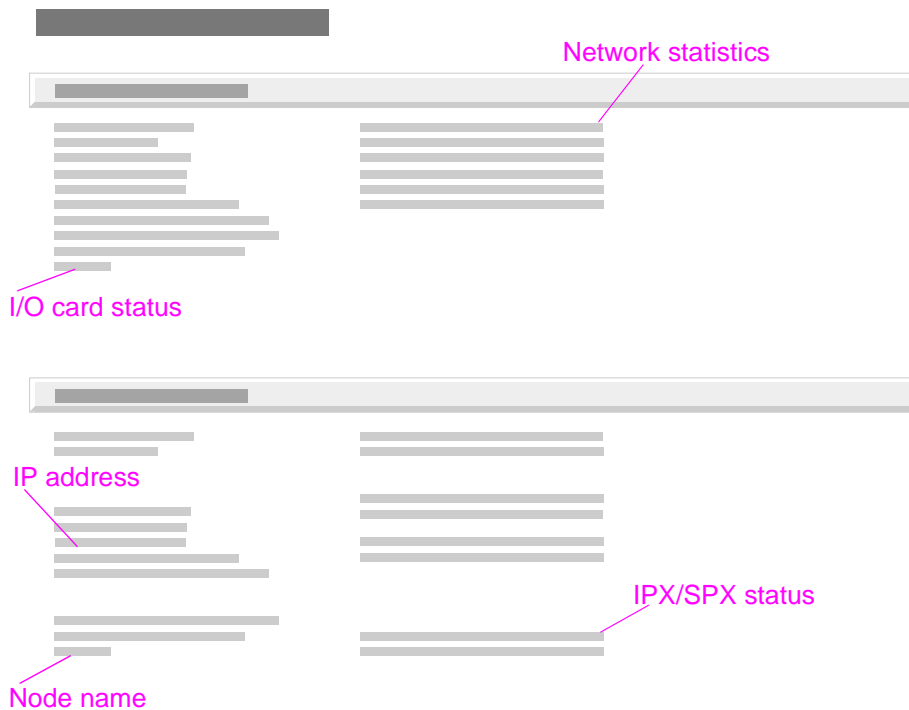

Figure 7-8 Sample JetDirect Configuration Page
The JetDirect Configuration Page shown in figure 7-8 on page 586 contains valuable information about the current status of the EIO accessories. Before attempting to troubleshoot a network problem or notifying your network consultant of a problem, always print a Configuration Page from the Control Panel's Information Menu. If an EIO accessory is installed, the JetDirect Configuration Page prints too.
- A “Novell Status” block should state the Novell printer server name to which the printer is connected. If the Node Name reads “NPIxxxxxx” (xxxxxx = last six digits of the EIO’s LAN address), the EIO card has not been configured for a Novell server (as in figure 7-8). This could indicate that the card is operating under an IPX protocol other than Novell. Consult with the network administrator if the Node Name is not present.